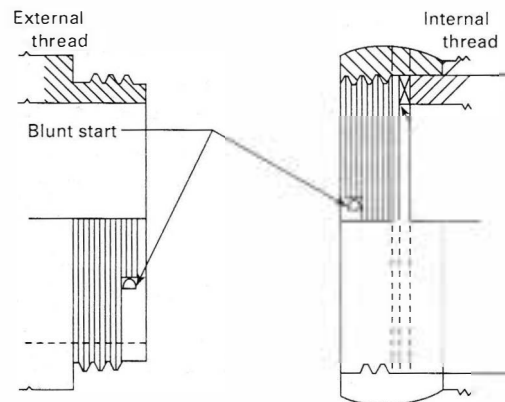

Fig. 4 Blunt Start Thread
*blunt start thread*: a thread with removal of the incomplete thread at the starting end (see Fig. 4). This is a feature of the threaded parts that are repeatedly assembled by hand, such as hose couplings and thread gages, to prevent cutting of hands and crossing of threads. Also known as Higbee cut or a convoluted thread.